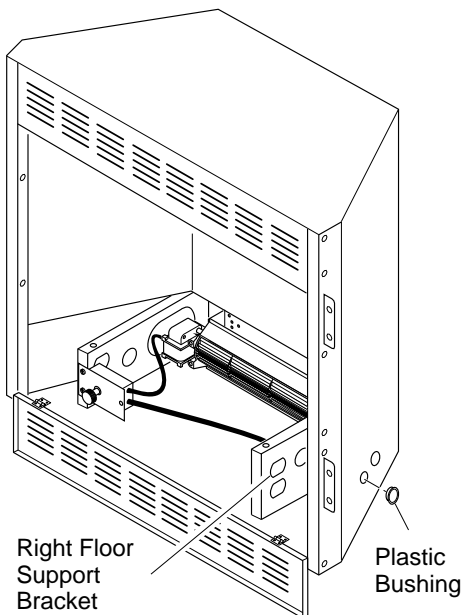

Figure 16 - Installing Plastic Bushing for Power Cord
- a. **If your fireplace system is installed as a freestanding unit with an accessory mantel**, determine whether the power cord will exit the left side or the right side of the firebox. Install 1 plastic bushing provided into the 1.5" hole in the floor support bracket on the exit side (see Figure 16). Install the second plastic bushing provided into the 1.5" hole in the outer casing through which the power cord will exit. Route power cord through both plastic bushings and plug the power cord into a properly grounded 3-prong wall receptacle near the firebox.